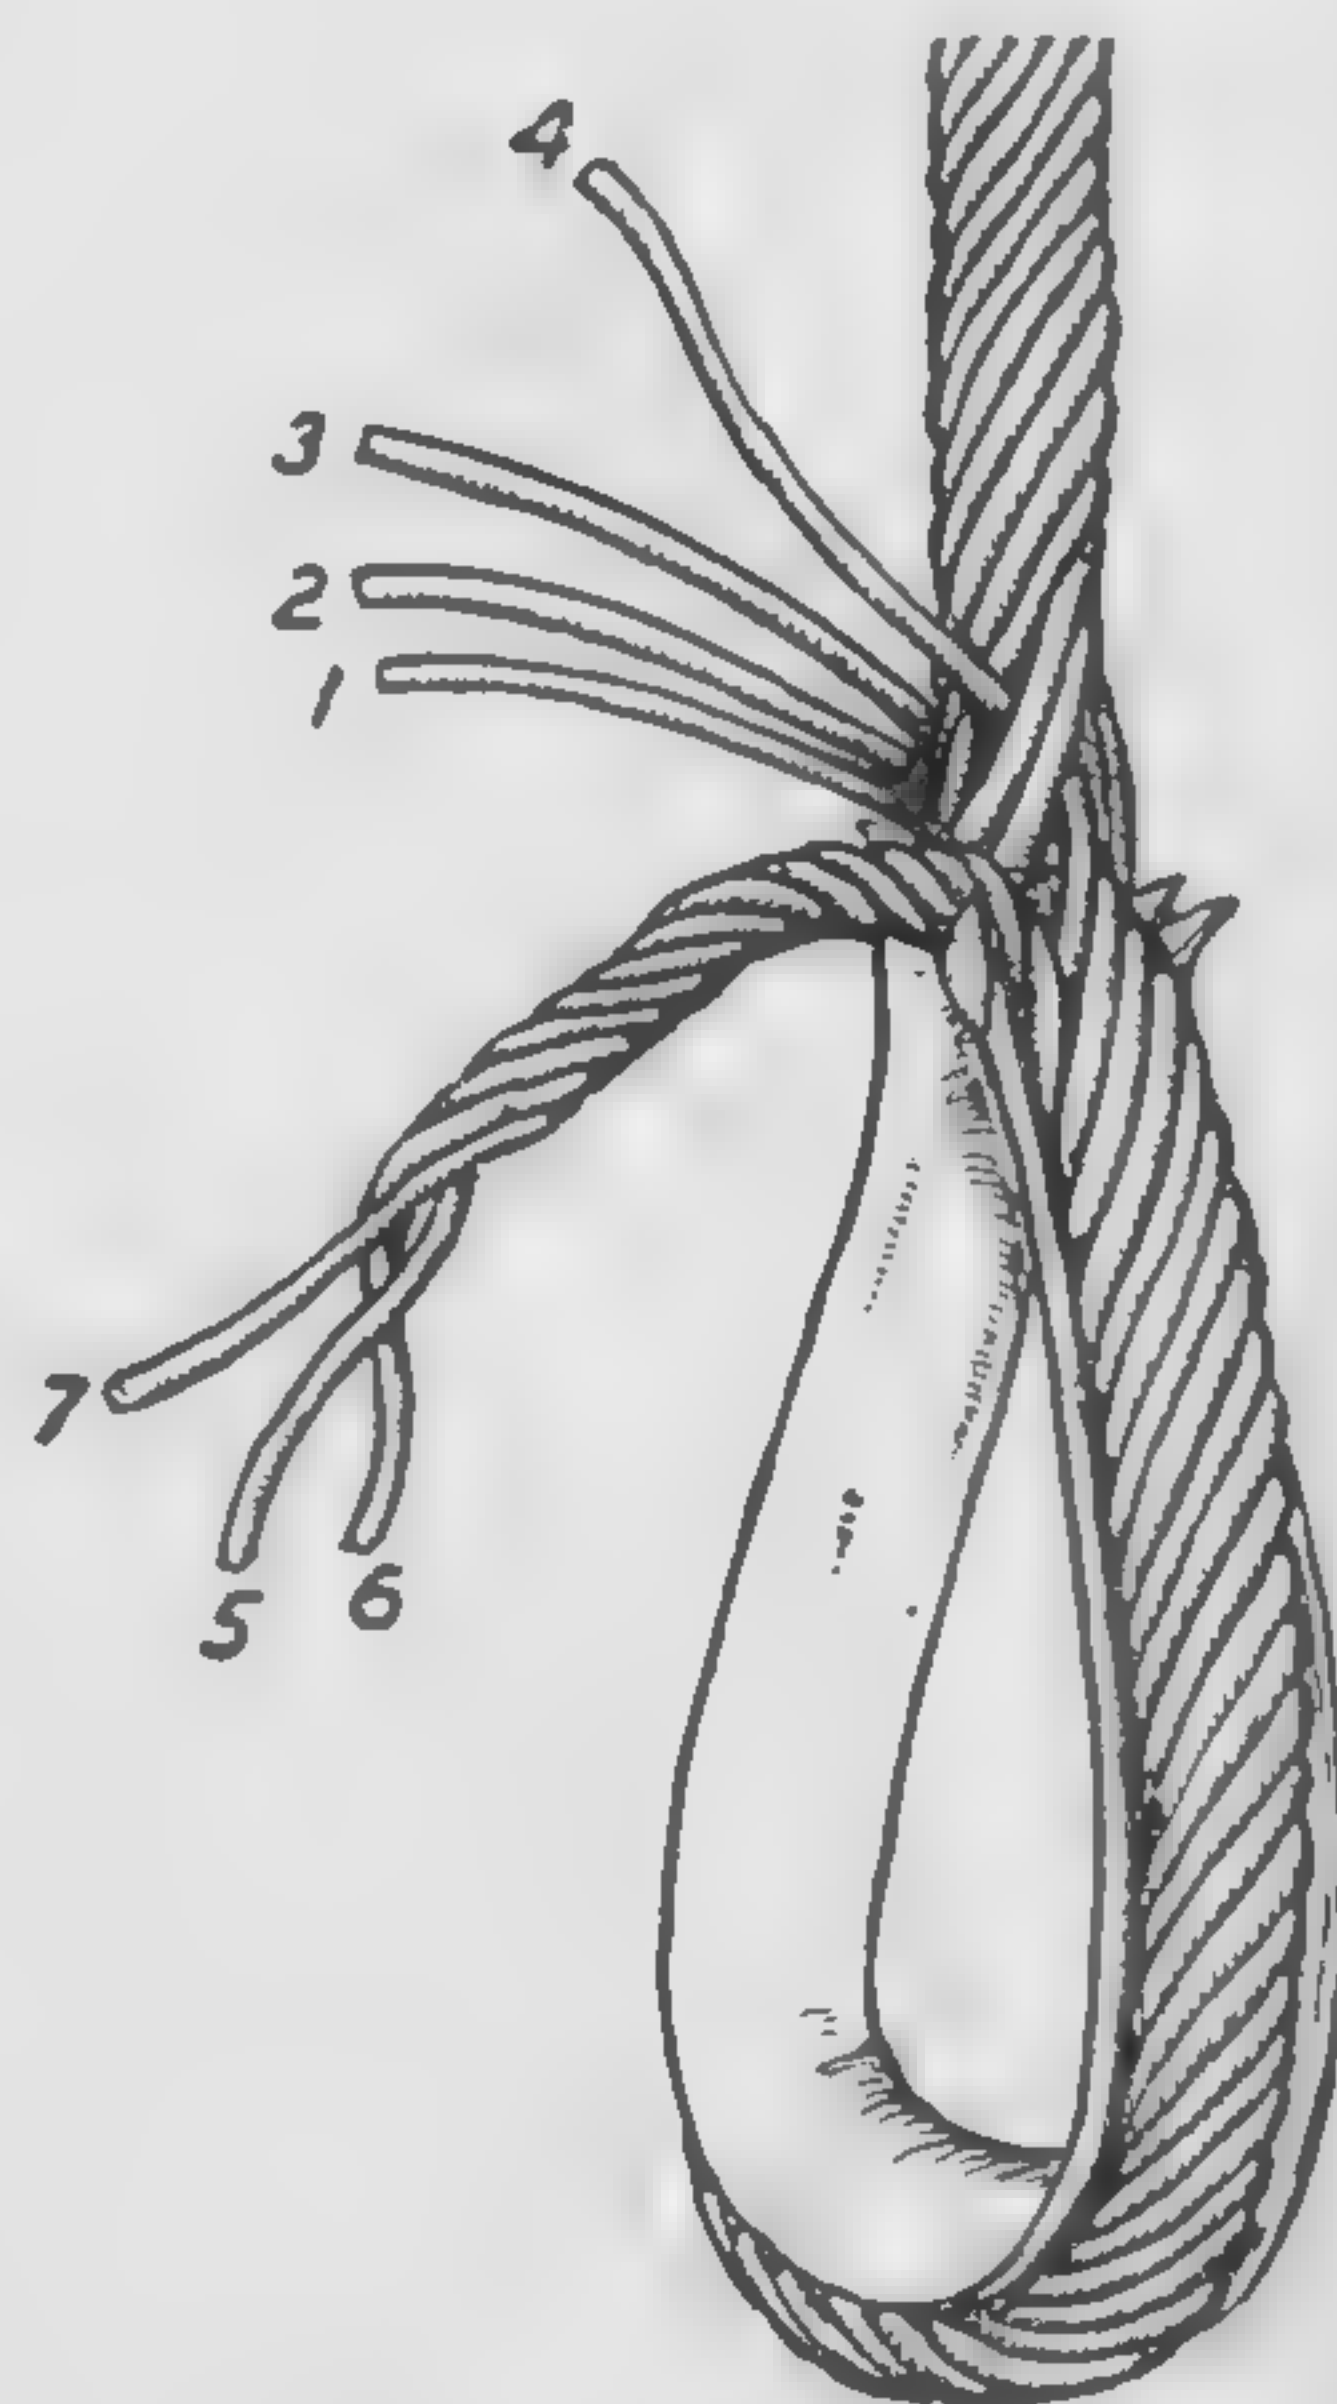

Fig. 16. Step 4 of the First Tuck
Step 4. Turn the cable over to the opposite side of the thimble. Loosen the strand nearest the right thimble point and separate. This is No. 4. Place the marline spike under the remaining two strands where there are no free strands coming out—this is to the right of No. 1 strand. Run No. 4 under the two strands from right to left as in Fig. 16.